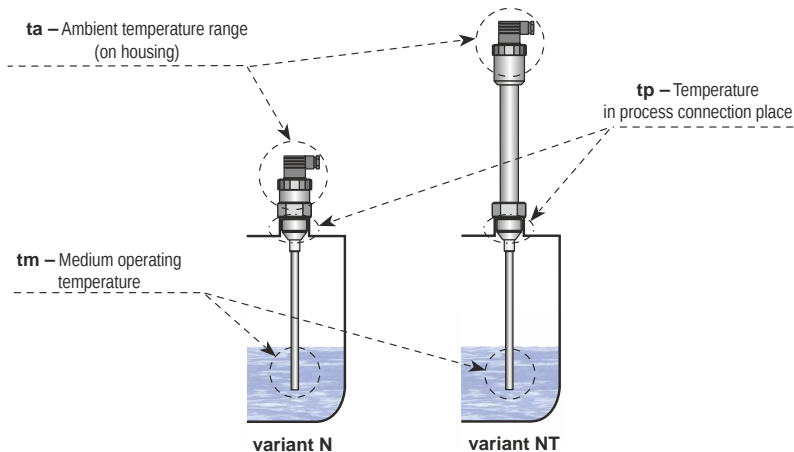

Fig. 14: Points for temperature determination on the level meter
1) The temperatures are clearly explained on Fig.14